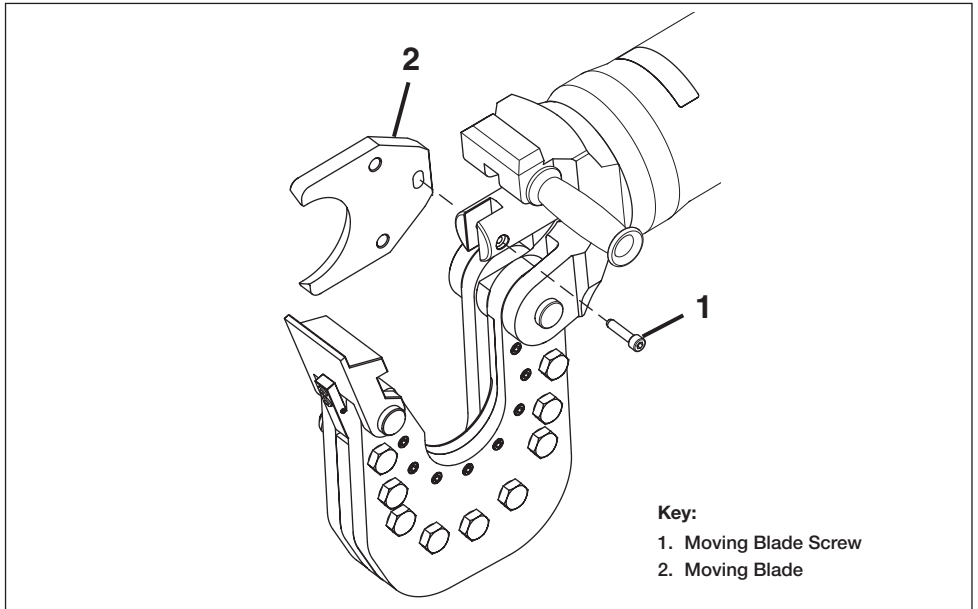

Figure 13, Moving Blade Replacement (Model EWCH90 shown, EWCH140 similar)
5. Loosen and remove the moving blade screw (Figure 13, item 1).
6. Remove the worn moving blade (Figure 13, item 2).
7. Install new moving blade (Figure 13, item 2) into the piston.
8. Install the new moving blade screw (Figure 13, item 1). Torque to 18 ft-lb [25 Nm]. Apply Loctite 243 or equivalent.